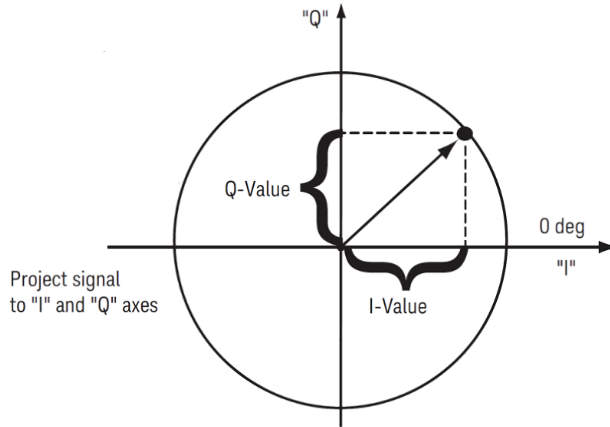

Figure 11. I/Q diagram
In a digital transmitter, I (in-phase) and Q (quadrature) signals mix with the same local oscillator (LO), but a 90-degree phase shifter is placed in one of the LO paths, as shown in Figure 11. This 90-degree phase shift makes the I and Q signals orthogonal to each other, so they do not interfere with one another. I/Q impairments leading to measurement uncertainty can be caused by unmatched components in the separate I and Q signal paths.